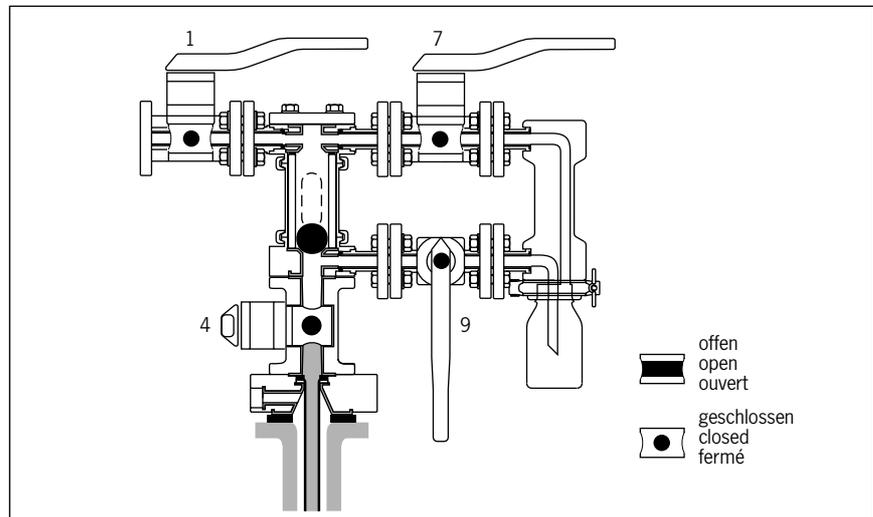

Figure 2 Initial condition
- ▼ Make sure that all valves of the sampling system are in their home position as shown in Figure 2.